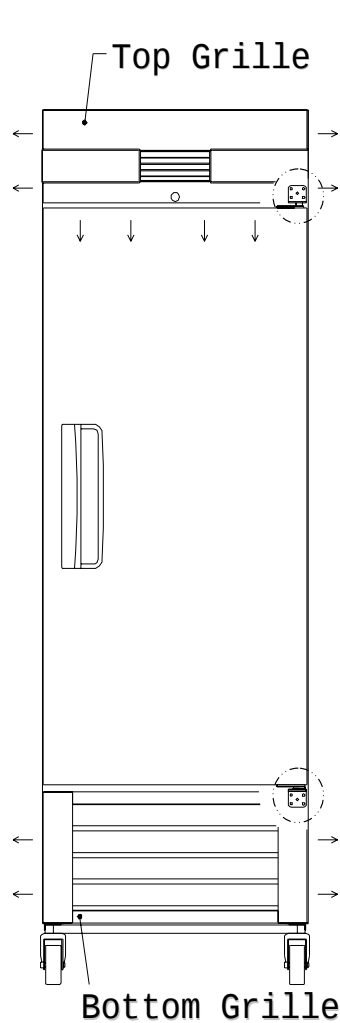

Figure 1.
1) STEP1. Remove the door (Figure 1)
2) STEP2. Replace the part in the door (Figure 1 and 2)
3) STEP3. Adapt the hinges (Figure 1 and 2)